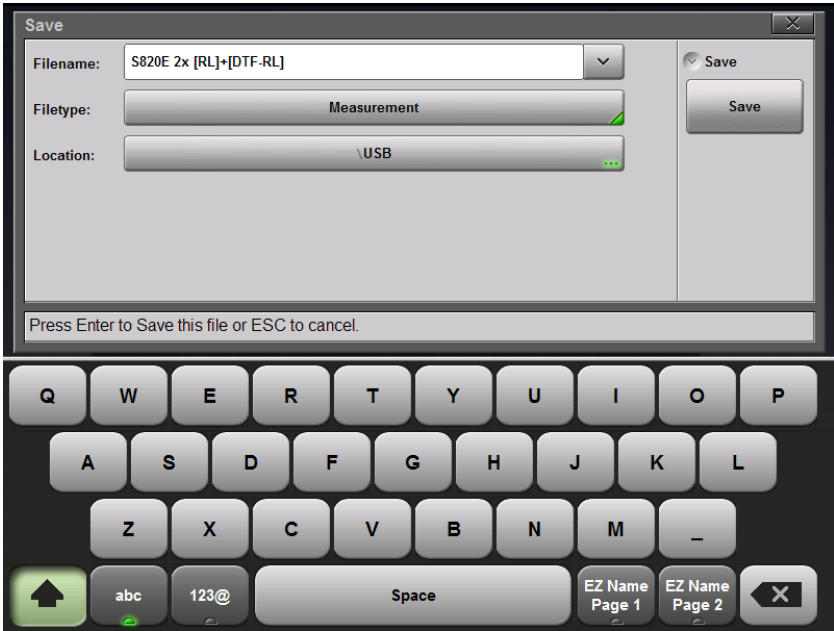

Figure 10-4. Save Location is set to root directory in External USB Drive
- Double tap on the USB flash drive icon and, if desired, create folders for the saved files. Press the **Set Location** button. The location for saving is now set to the external USB drive (\USB). Refer to Figure 10-4 on page 10-7.
Pressing the Location: button (in the Save menu) opens the Save dialog box (Figure 10-4) and displays the File Save and Navigation submenus. These functions are described in “File Mgmt Menu” on page 10-34.